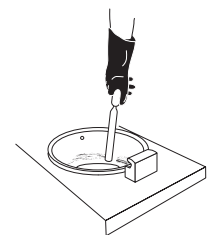

FIGURE 15
9. Cleaning After Each Round - scrape crust line from pot with spatula (supplied) (Figure 15). Brush heater coils on the front and back side with the white Teflon brush (supplied). Wipe excess moisture off of fryer lid with a dry towel.
brush heater coils (Figure 15).